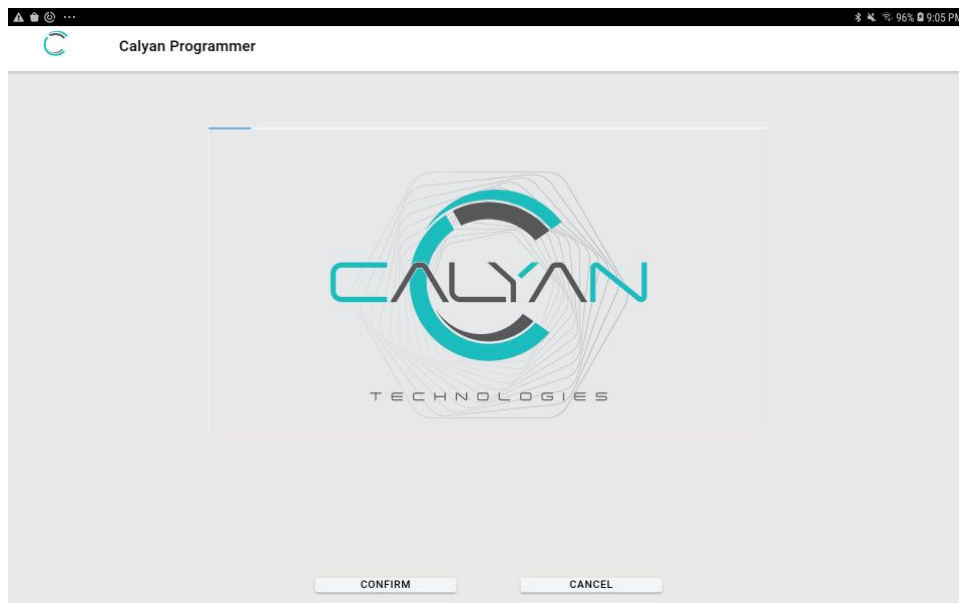

Figure 3: Confirm programming mode selection.
2. Confirm if you want to continue with mode selection or press back button if you want to change the selected mode (Figure 3).